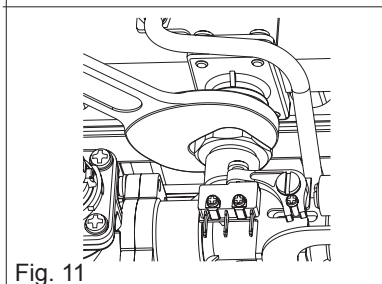

Fig. 11
- Remove the nut that holds the burner in place (fig. 11)